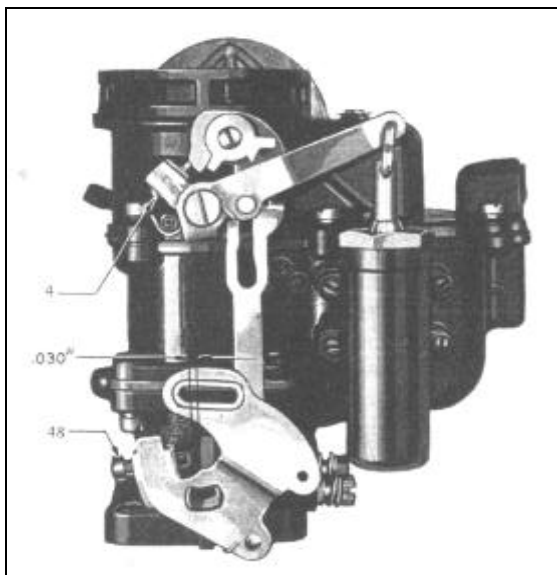

Figure 435
(149) Hold choker valve tightly closed and adjust fast idle arm screw (4) (Figure 435), to give .012 to .018 inch opening between edge of throttle valve and bore of carburetor side opposite port. When the carburetor is on the car and the slow idle screw (48) adjusted to seven miles per hour, proper adjustment of the high idle can be made by turning the high idle screw until the low idle screw is .030" from the stop as indicated in Figure 435.